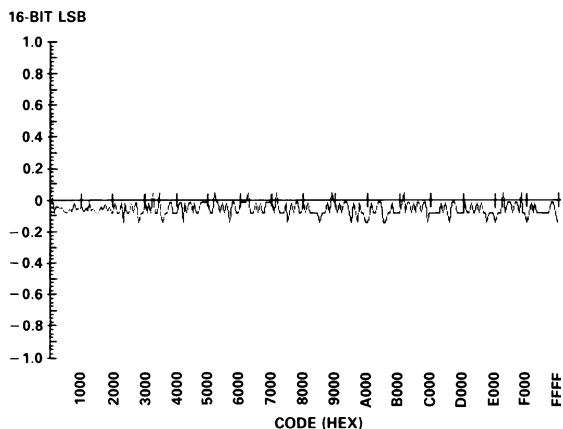

Figure 5. Typical DNL at Segment Boundary Transitions
**DIFFERENTIAL NONLINEARITY:** DNL is the measure of the change in the analog output, normalized to full scale, associated with a 1 LSB change in the digital input code. Monotonic behavior requires that the differential linearity error be less than 1 LSB over the temperature range of interest. For example, for a  $\pm 5$  V output range, a change of 1 LSB in digital input code should result in a 152  $\mu$ V change in the analog output (1 LSB = 10 V/65,536). If the change is actually 38  $\mu$ V, however, the differential linearity error would be  $-114$   $\mu$ V, or  $-3/4$  LSB. By leap-frogging the buffer amplifier taps on the first divider, a typical AD569 keeps DNL within  $\pm 38$   $\mu$ V ( $\pm 1/4$  LSB) around each of the 256 segment boundaries defined by the upper byte of the input word (see Figure 5). Within the second divider, DNL also typically remains less than  $\pm 38$   $\mu$ V as shown in Figure 6. Since the second divider is independent of absolute voltage, DNL is the same within the rest of the 256 segments.